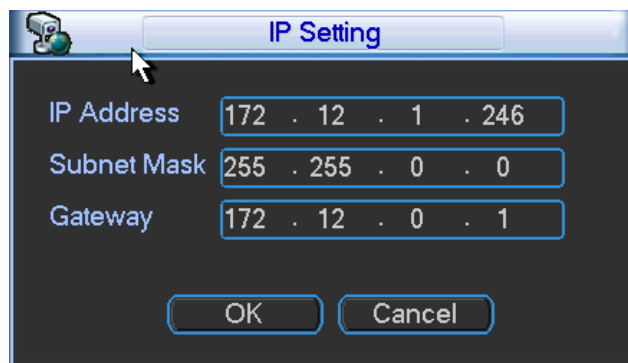

Figure 3-67
- Edit: Click Edit button  you can go to Figure 3-67. Here you can change the searched IP address. Please note this function is for IP from private manufacturer.